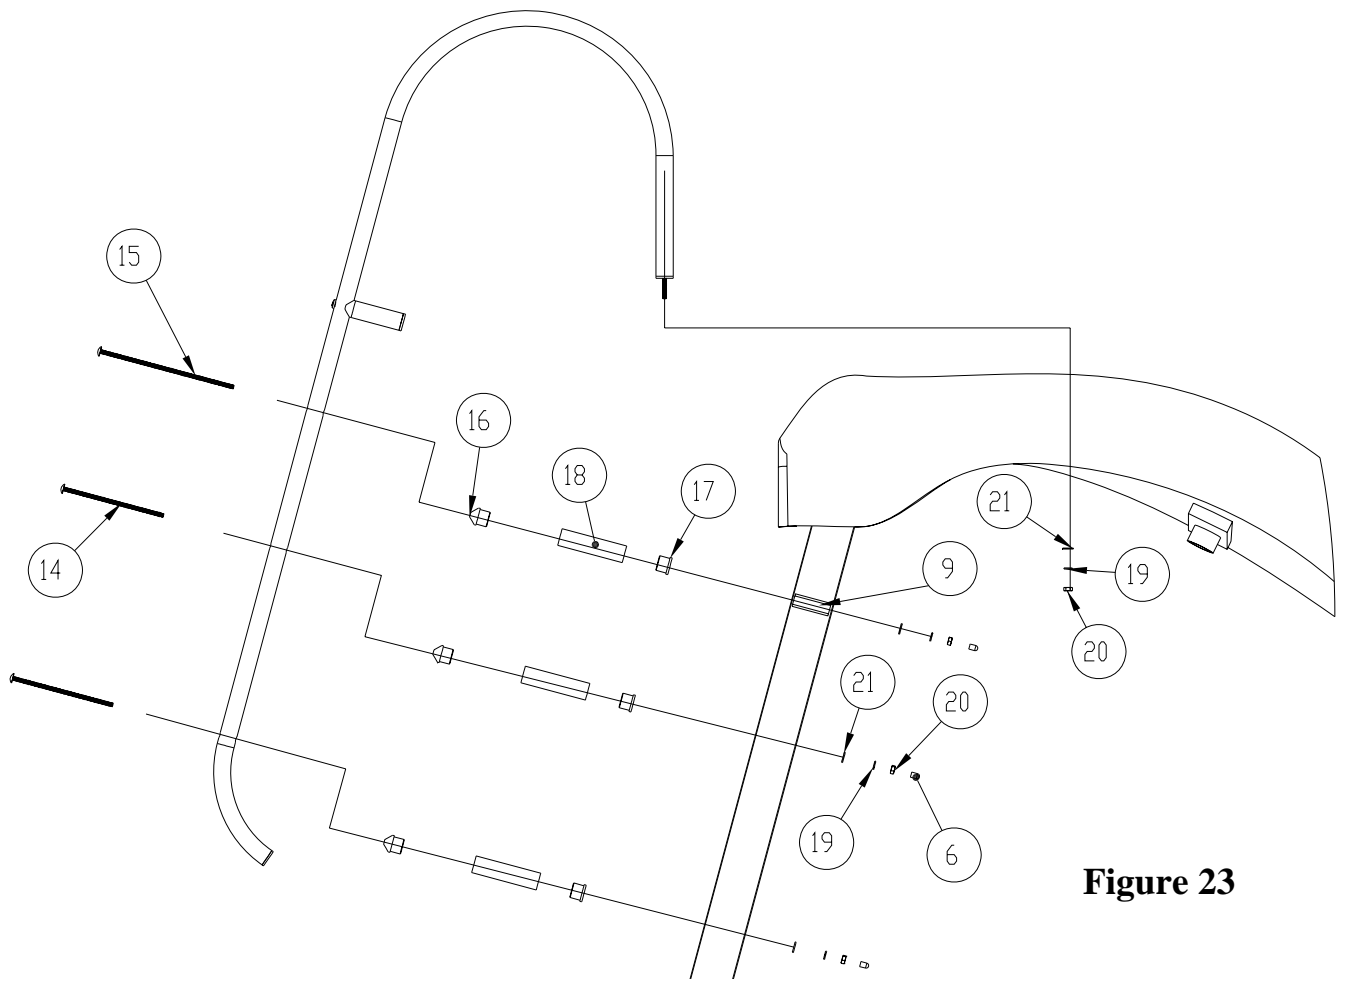
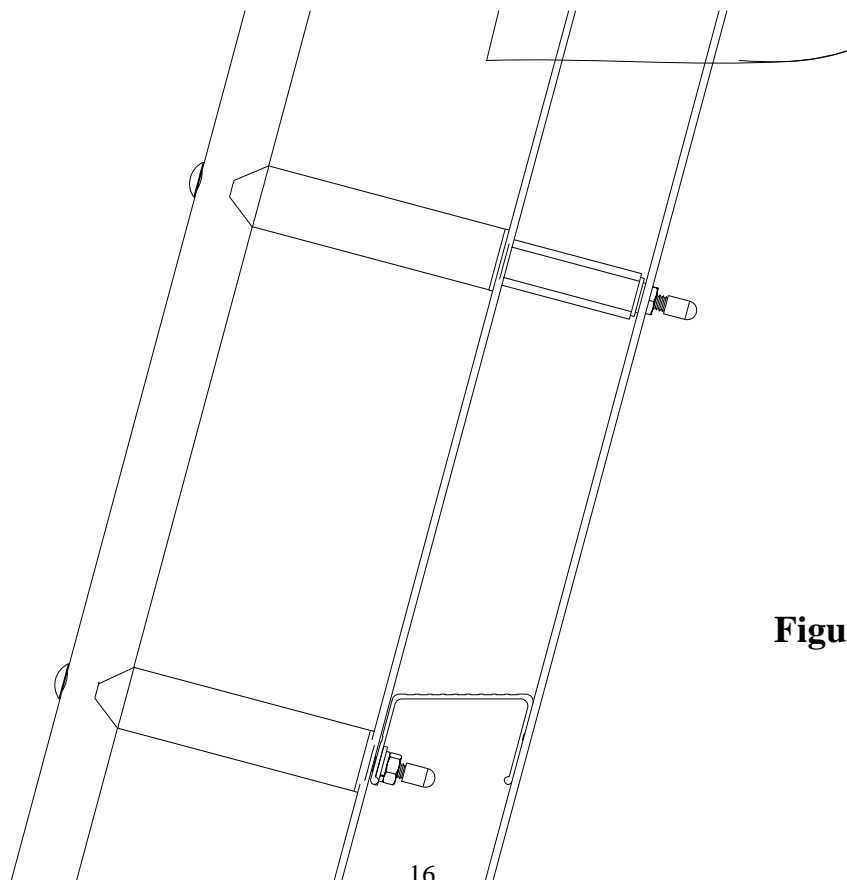

Figure 23
Figure 24
- 24)** Disassemble each handrail as shown in Figure 23. Insert the two handrails into the holes on the top of the slide runway rails, and secure each using a (#21) Flat Washer, a (#19) Lock Washer, and a (#20) Hex Nut.
- 25)** Starting with the top handrail spacer, align the top hole in the handrail with the top hole in the ladder side rail. Next, assemble the handrail spacer parts (#16), (#17) and (#18) in the order shown in Figure 23 and align it between the handrail and ladder top holes. Next, insert the (#15) 1/4-20 x 8" Carriage Bolt through the handrail and the handrail spacer parts. The (#9) Ladder spacer is to be placed in between the front and back sides of the ladder side rail such that the (#15) Carriage Bolt holds it in place after it is pushed completely through the ladder side rail, see Figure 24. Secure the (#15) Carriage bolt using a (#21) Flat Washer, a (#19) Lock Washer, and a (#20) Hex Nut in the order shown in Figure 23. Finally, place a (#6) Vinyl Bolt Cap over the exposed threaded end of the bolt.
- 26)** For the remaining two ladder spacers, align parts (#16), (#17) and (#18) between the hole in the handrail and the hole in the ladder as in step 24. Use a (#14) 1/4-20 x 6" Carriage Bolt along with a (#21) Flat Washer, a (#19) Lock Washer, and a (#20) Hex Nut to fasten the parts together as shown in Figures 23 and 24. Again, place a (#6) Vinyl Bolt Cap over the exposed threaded ends of the bolts.